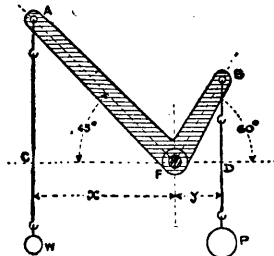

FIG. 134.
*Ex.*—A bent lever as in Fig. 134 is weighted at A by a freely hanging weight of 20 lb. What weight, hanging from B, will balance the lever if AF is 12 in. and BF is 6 in. long? AF is inclined to the horizontal at  $45^\circ$  and BF at  $60^\circ$ .
First draw the lever to scale, as in Fig. 134, to the particulars given in the question. Both weights W and P will hang vertically. The distance they act from the fulcrum F will be measured on a line through F at right angles to the direction in which the weights are acting. This line is CFD. The moment of weight W round F will therefore be  $Wx$ , and the moment of weight P round F will be  $Py$ .